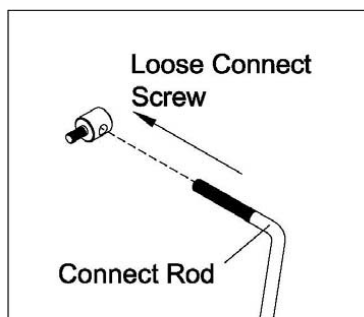
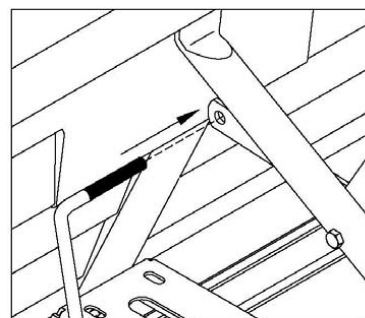
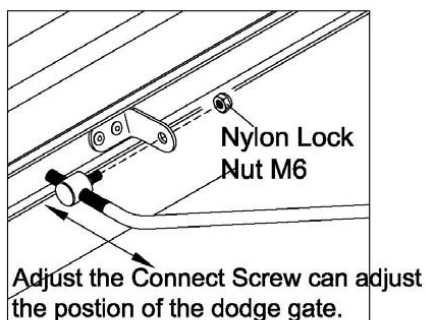

Figure 7
Figure 8
Figure 9
- Loose one Connect Screw from the Connect Rod. See Figure 7. Insert the Connect Rod to the hole below the Flow Control Handle fix with the Connect Screw. See Figure 8. Attach the Connect Screw on two end of Connect Rod to the Fix Bracket on Dodge Gate, secure by Nylon Lock Nut M6. Do not secure the nuts too tight, the connect screw can rotate by itself. See Figure 9 & 10.